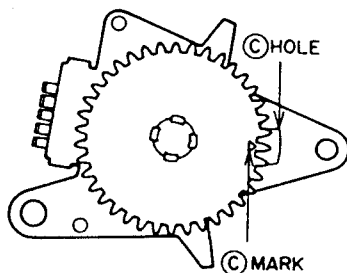

Fig. 3-16
- 1) Set the MODE SELECT SWITCH's gear so that the © mark is in the center of the © hole as shown in Fig. 3-16.